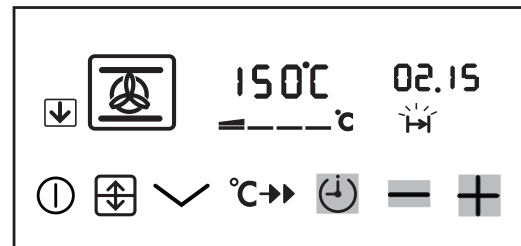

Fig.11.
- iv) To set the length of cooking time, press the Time Selector button until the 'Cook Time' indicator (|→|) is illuminated. Press the increase control button (+) until the required length of cooking time is displayed, e.g. 2 hrs 15 mins as Fig. 11. Depress the decrease control button (-) if necessary.